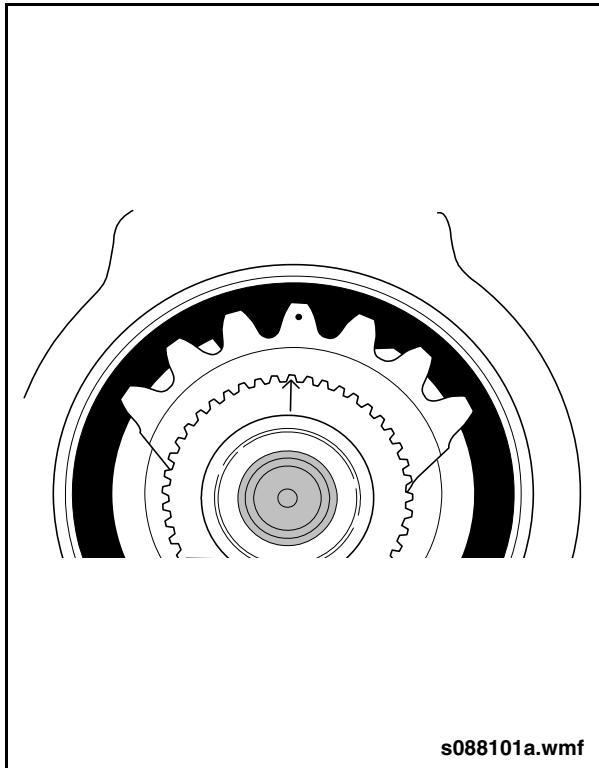

Fig. 3-26: Sector Shaft Timing Marks
17. Coat end of sector shaft with grease and insert sector shaft into housing. Ensure timing mark on sector shaft lines up between two timing marks on piston rack. See "Fig. 3-26: Sector Shaft Timing Marks" on page 41.